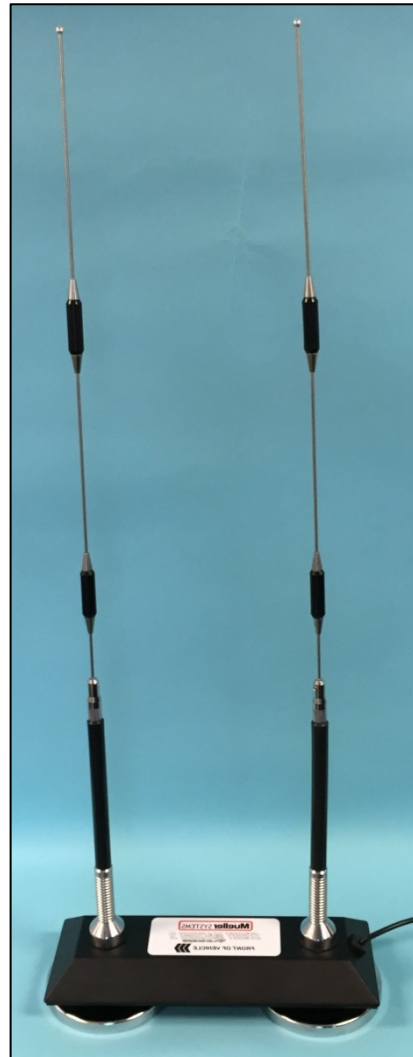

Figure 2 D u a l Antenna 2 Assembly
Install the two antenna whips (2) onto the Antenna Housing (3). Carefully thread the antennas onto the connectors making sure that the antennas seat properly and are flush to the body of the housing and rubber washer provided as shown in Figure 2.